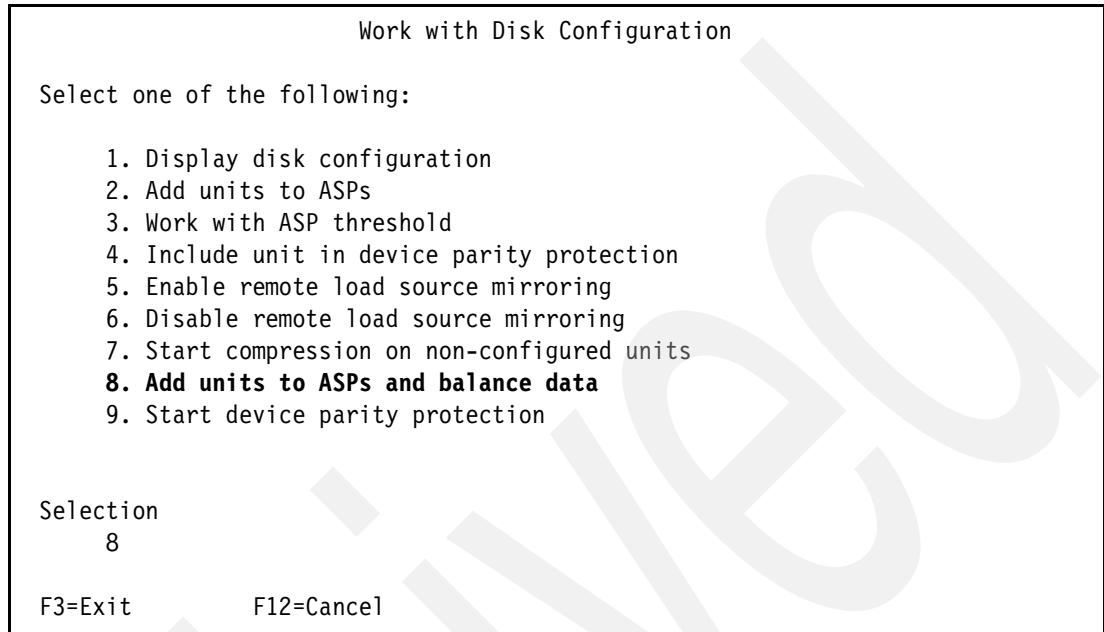

Figure 5-20 Work with Disk Configuration panel
- When adding disk units to a configuration, you can add them as empty units by selecting Option 2, or you can allow i5/OS to balance the data across all the disk units. Normally, we recommend that you balance the data. In the Work with Disk Configuration panel (Figure 5-20), select **8. Add units to ASPs and balance data**.